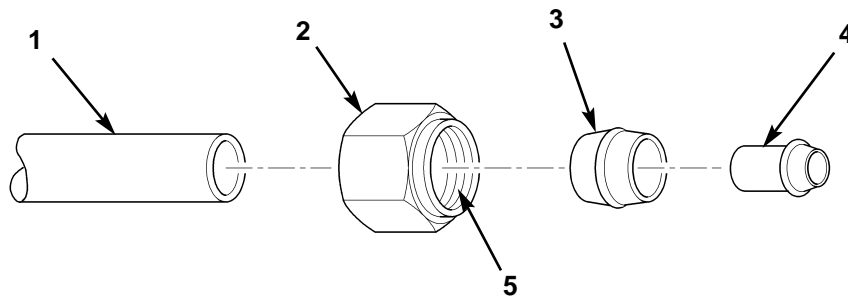

Figure 3. Installing Nut, Ferrule, and Sleeve Insert.
1. Measure and cut bulk tubing to desired length, and route new tube (figure 3, item 1) as noted during removal.
2. Slide nut (figure 3, item 2) on tube (figure 3, item 1) with threads (figure 3, item 5) facing end of tube (figure 3, item 3), and install ferrule (figure 3, item 3) on outside diameter (O.D.) of tube (figure 3, item 1).
3. Install sleeve insert (figure 3, item 4) on I.D. of tube (figure 3, item 1).